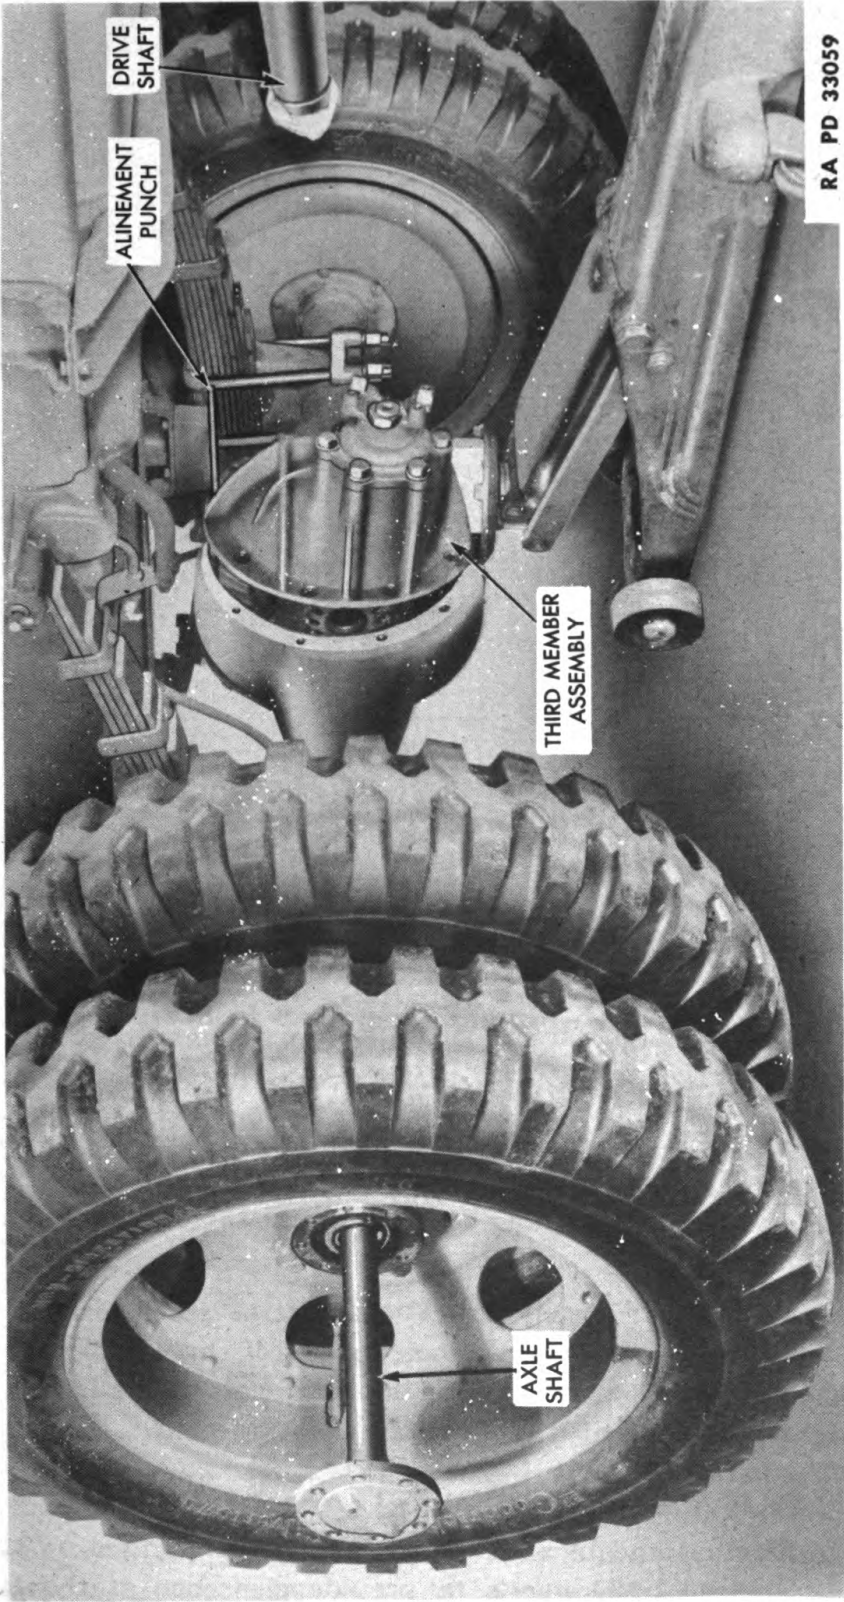

Figure 86—Third Member Assembly Replacement
a. **Removal** (fig. 86). Drain the differential, remove the axle shaft cap screws, and pull both axle shafts out far enough to clear the differential. Remove rear universal joint U-clamps, tape the trunnion bearings to the trunnions, and tie the propeller shaft to a frame side rail. Remove the cap screws that retain third member assembly to axle housing. Before the last cap screw is removed, place a long drift punch through upper bolt hole in third member and housing to support third member. Place a roller jack under third member, and block it to support the assembly. Work the assembly forward until it clears the axle housing, steady third member on jack, remove drift, and lower the third member to floor.
b. **Installation.** Place third member on jack and block it in position. Install a new gasket. Roll the assembly under vehicle, raise it in line with axle housing, and place a long drift punch through upper hole in third member and axle housing. Work the assembly into axle housing, being careful not to damage gasket. Install the cap screws, and tighten them securely. Remove tape from universal joint trunnion bearings, place the propeller shaft in position, and install the U-clamps. Install the axle shafts and retaining cap screws. Fill differential to correct level (par. 28 c (6)).